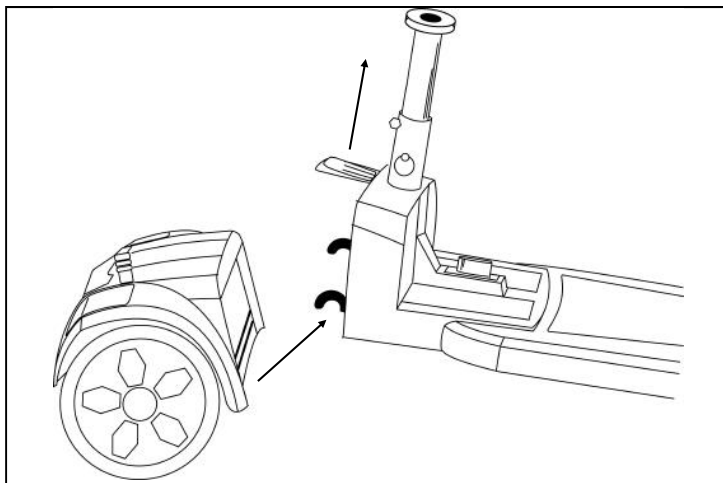

Figure 18. Separating the Drivetrain and Frame
7. Pull up on the drivetrain release lever with one hand to unlock the front and rear frame sections. See Figure 18.
8. Pull the front frame up and off of the drivetrain. See figure 18.